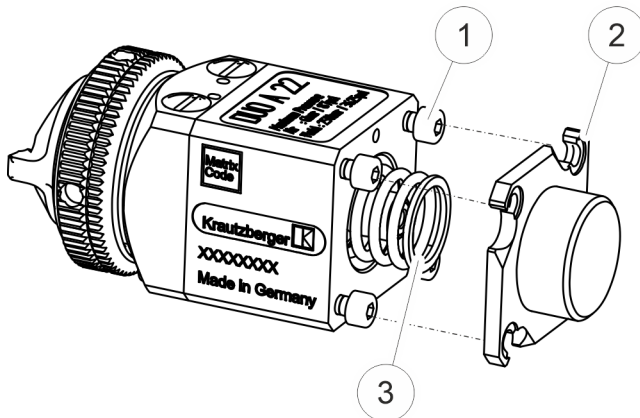

Fig. 18: Screwing the cover in place
5. Install the pressure spring ( Fig. 18/3). In doing so, ensure that the spring is seated correctly. Hook the cover ( Fig. 18/2) back into the cylinder screws ( Fig. 18/1). Tighten the cylinder screws with a wrench to the stop (tightening torque **2.5 Nm**).